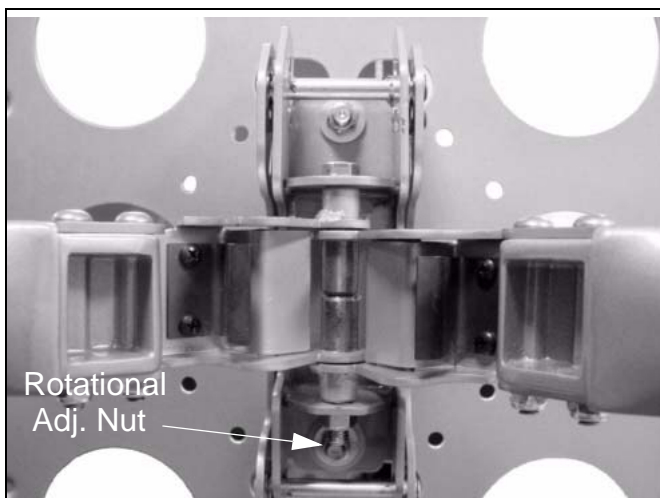

Figure 11: Rotational Adjustment
1. If necessary, loosen or tighten bottom rotational tilt tension adjustment nut (See figure 11).